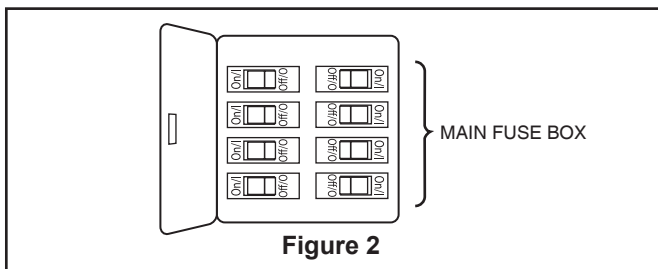

Figure 2
2. Restore electrical power to the outlet box by turning the electricity on at the main fuse box. (Figure 2)